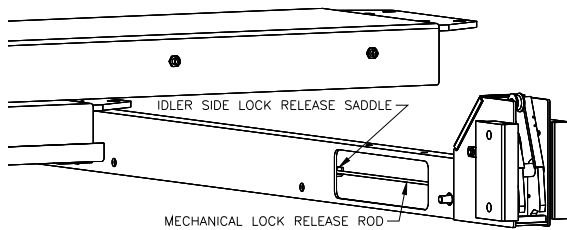

Fig 8 – Mechanical Lock Rod
- 10) Remove the four (4) cross beam sheaves (one sheave from each beam end). **DO NOT REMOVE THE RUNWAY SHEAVE PINS.**
- 11) Place the mechanical lock release rod into the saddles located on the inside of the cross beams, **Fig 8.**